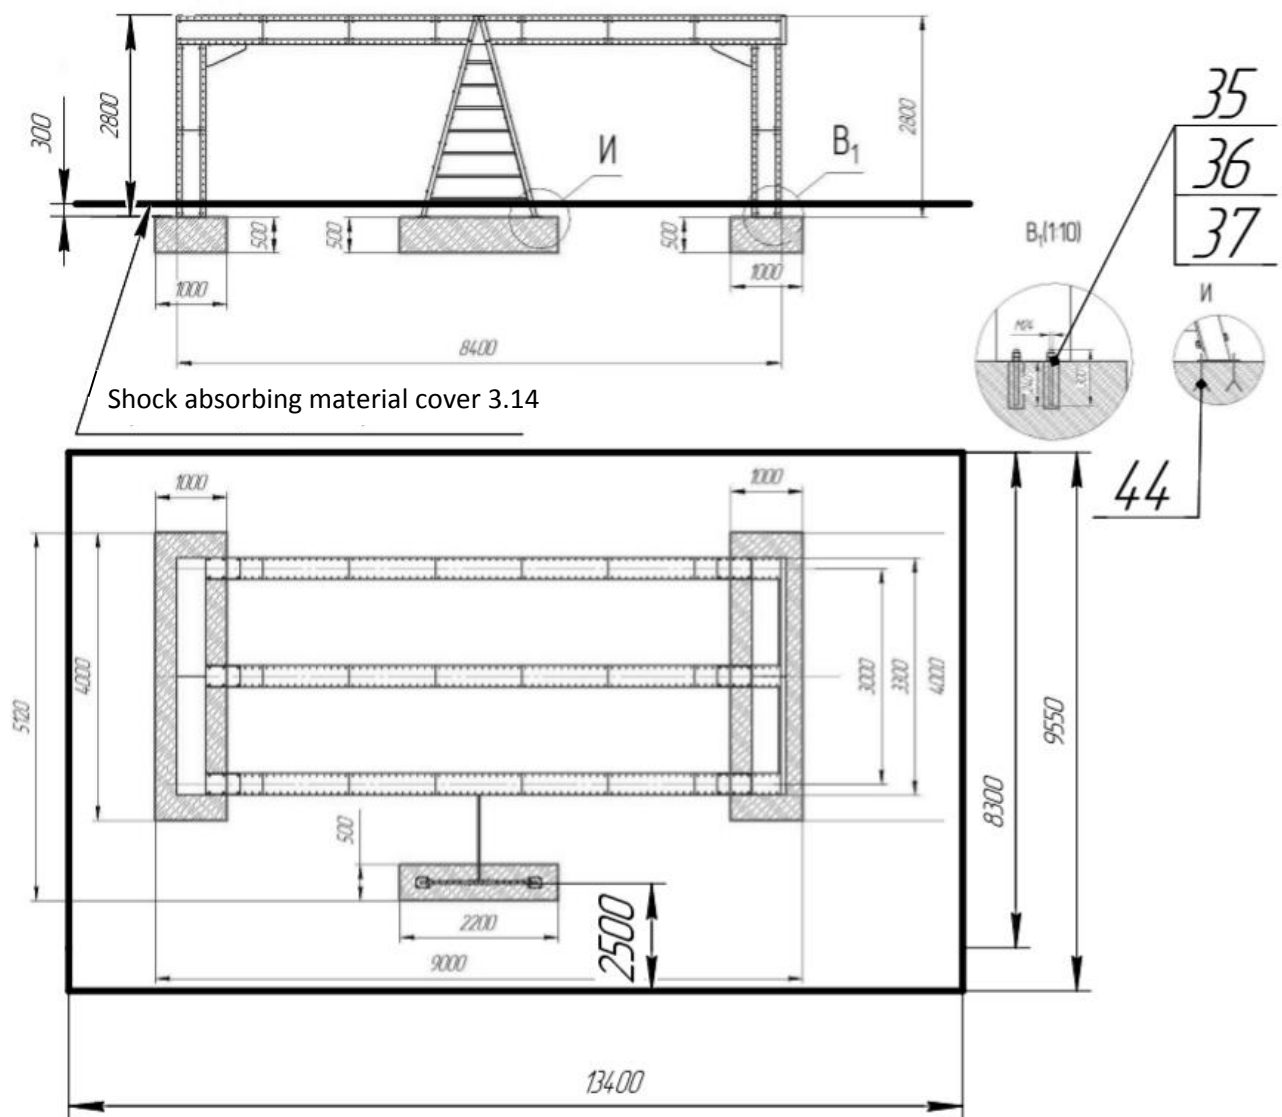
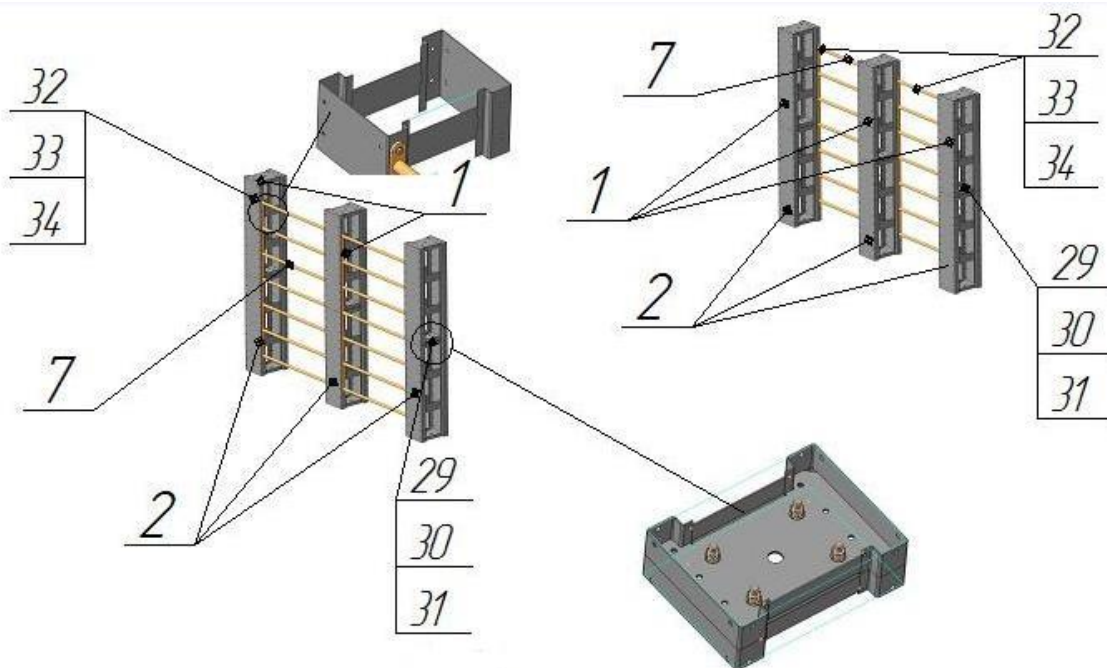
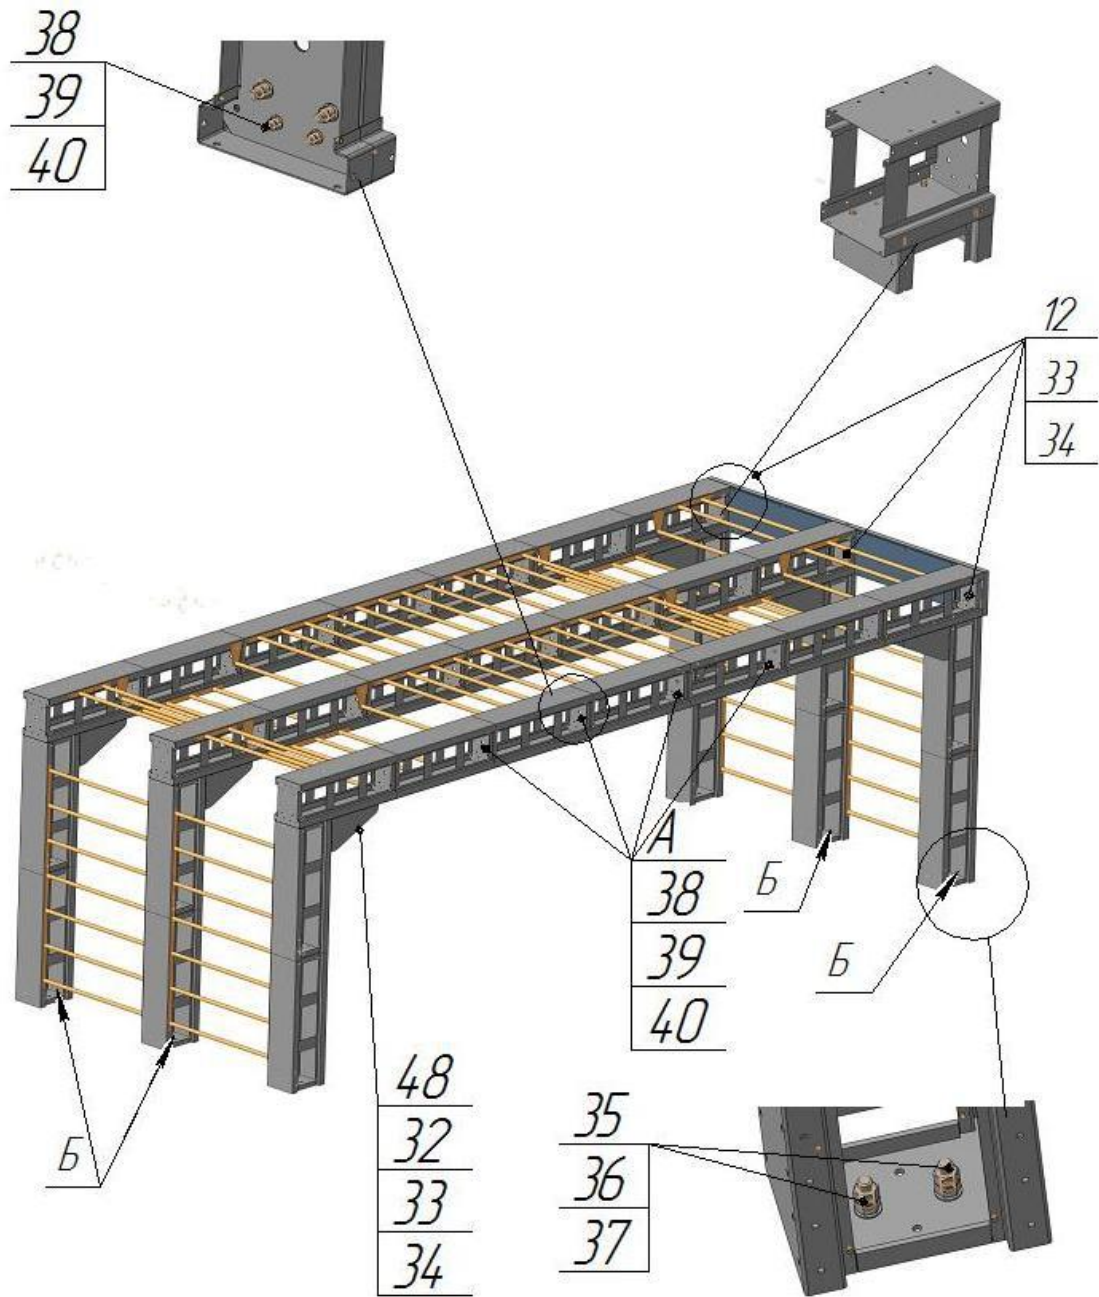
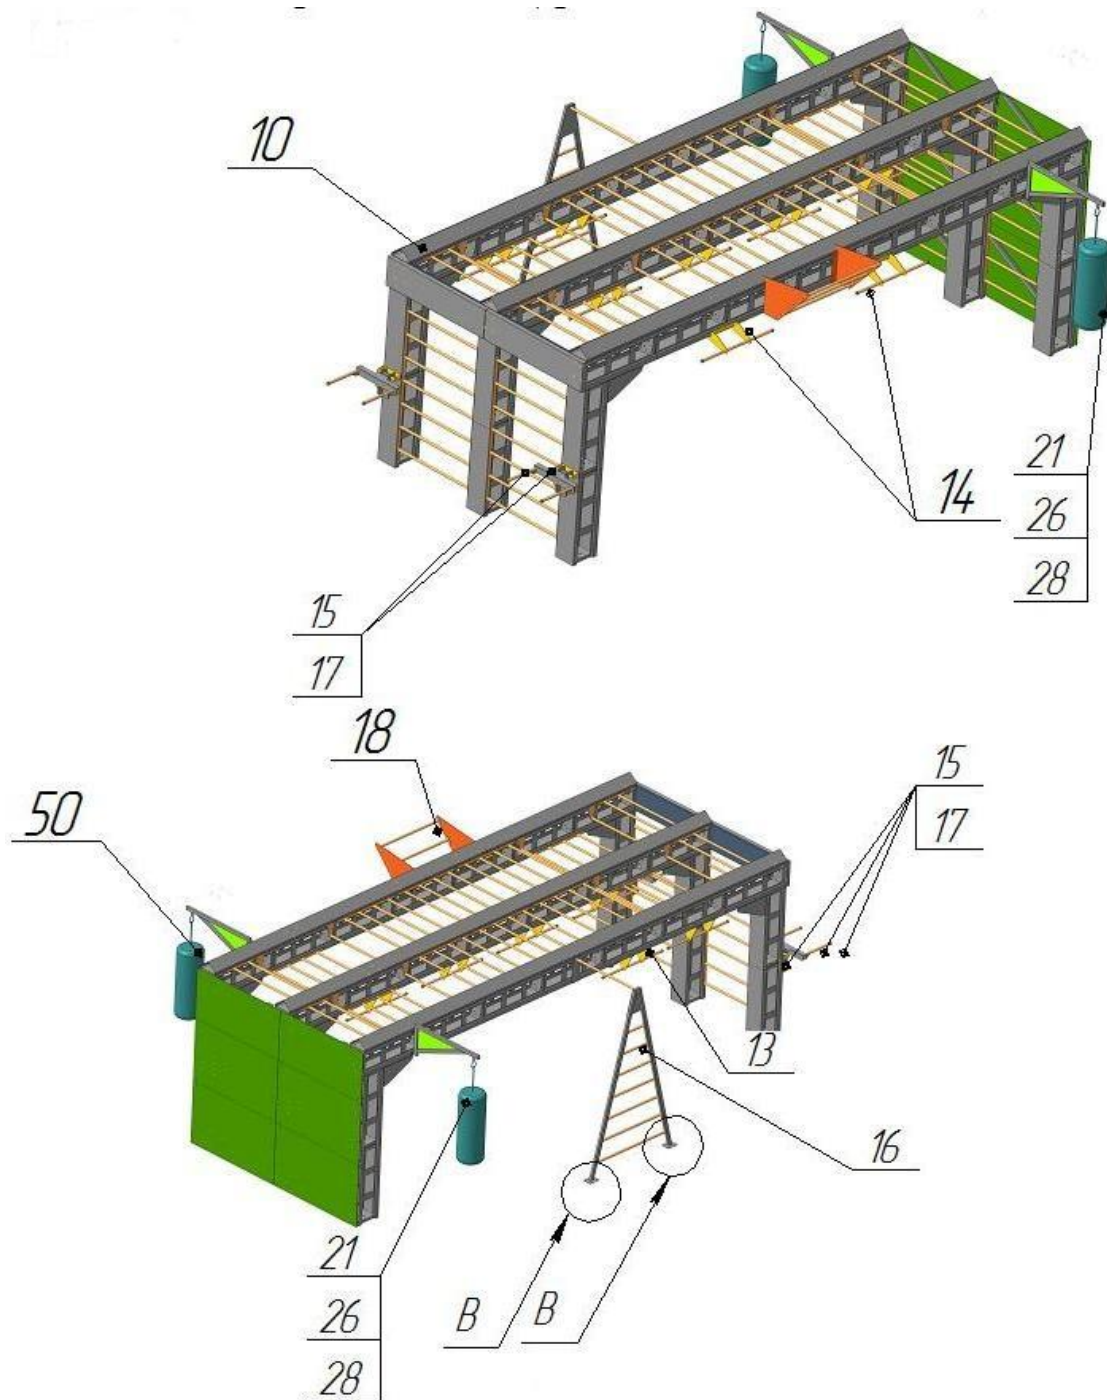

Fig.1
Fig.2
Fig.4
Fig.5
- 3.2 Install on prepared concrete surfacing according to the scheme Fig.1 with the use of anchored reinforcements № 35, 36, 37, 44. Concrete grade used in the manufacture of concrete surfacing should be at least M250.
- 3.5 Assemble the side panels, see fig.2 consisting of assembly units № 1, 2, 7 (see table 2) and metal items № 32, 33, 34, № 29, 30, 31. Do not tighten the threaded connections. Install vertically on prepared concrete pads according to fig.1.
3.7 Using lifting-transport device install the upper part of complex on the previously assembled side panels, see fig. 4 and fix it with the help of metal hardware № 12, 33, 34. Install parts № 1, 47, 48, 3, 49. Perform a final tightening of all threaded connections 25...30H\*m. Additionally in places "A" install bolted connections № 38, 39, 40.
3.8 In places "B" with the help of anchor connections №35 and metal hardware № 36, 37, see Fig.4 and Fig.1 secure the construction to the prepared concrete surfacing.
3.9 Install the equipment included in delivery according to Fig.5
- 3.10 In places "B" (fig.5) with the help of anchors № 44 secure assembly units №16 to the prepared concrete pads (fig.1)